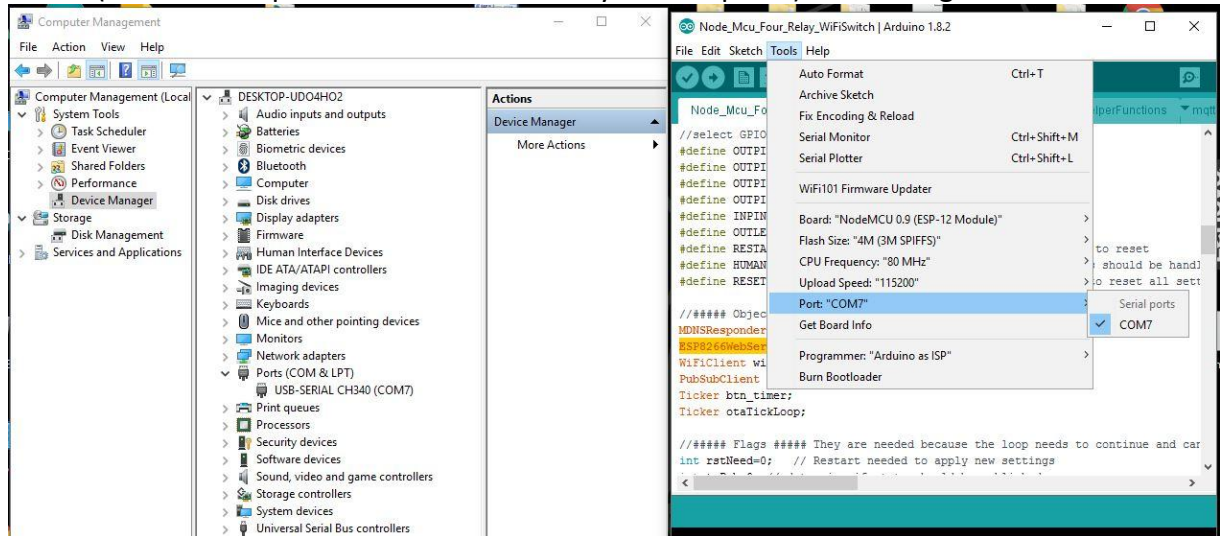

Figure 12: COM port selection.
11. Click on tools tab, move mouse pointer to "Port: "COMx", under this click on "COMx" to select. ("x" refers to port number available in your computer) Refer to figure 12.